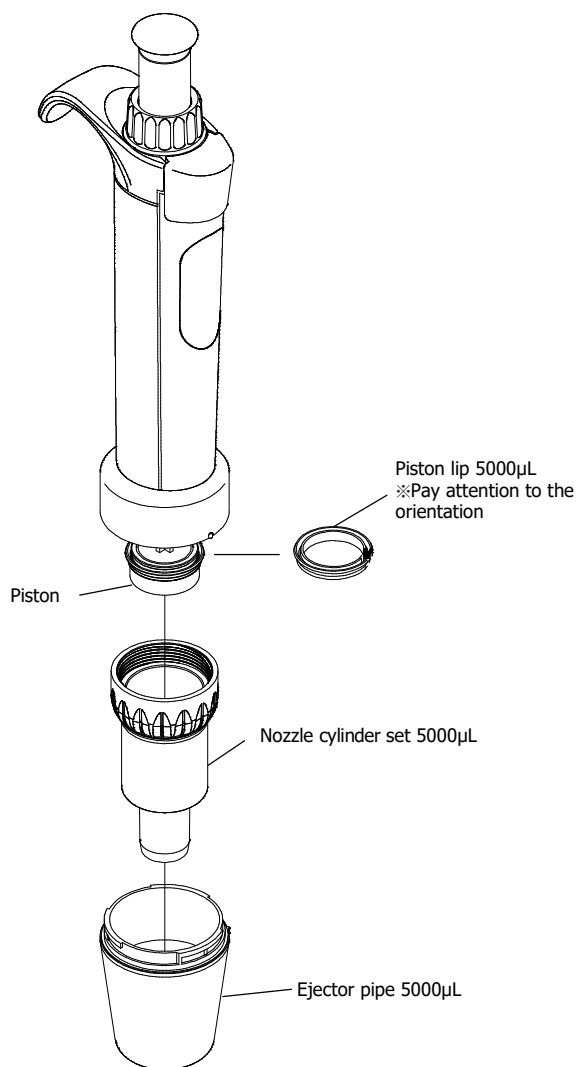

Fig. 4-14
- 5000 μ L, 10000 μ L (Fig. 4-14, 4-15)